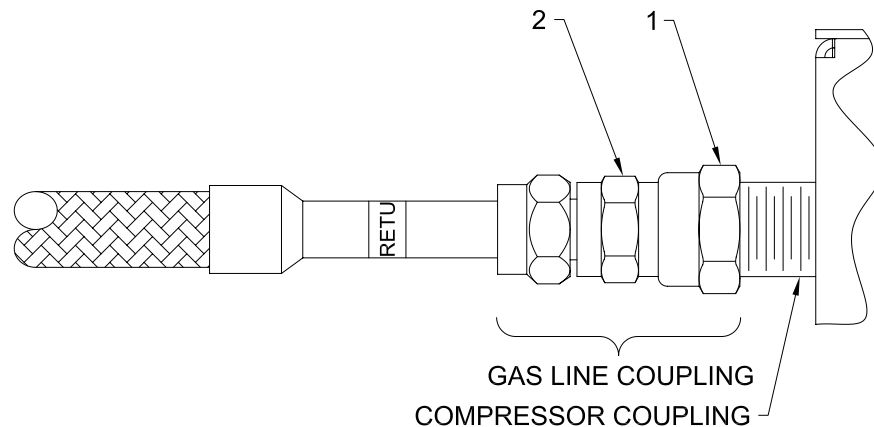

Figure 7: Connect Gas Line to Compressor
5. Connect the SUPPLY gas line to the compressor's SUPPLY coupling. When tightening the connection, place a 19 mm (3/4") wrench on the freely-rotating part of the female coupling half (position "1" in Figure 7) on the gas line and a 16 mm (5/8") wrench on the base of the female coupling half (position "2") on the gas line. Hold the 16 mm (5/8") wrench steady, turn the first wrench clockwise to tighten the connection. **Torque all couplings to 8 to 10 N•m (6 to 8 lb•ft). (Use 14 to 16 N•m or 10 to 12 lb•ft if both the male half and female half are Aeroquip/Parker 5400 series couplings).** Fully tighten each coupling before proceeding to the next one.